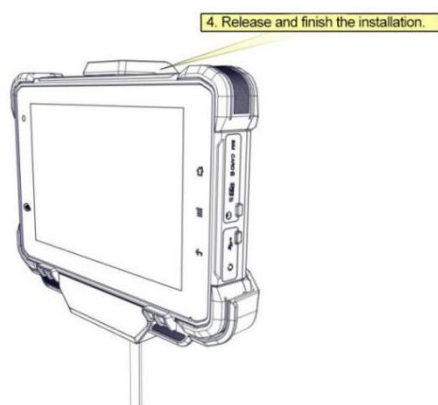

Figure 4
4.1.4 Release and finish the installation as Figure 4 shown.